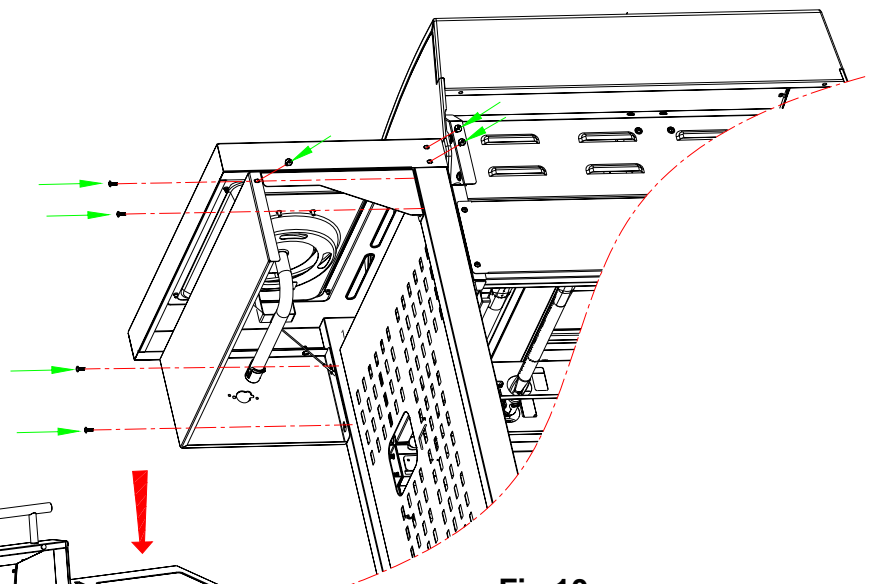

Fig.10c
- Attach right shelf to the right side panel from outside to inside of firebox with four (4) M5 x 10 screws as shown in Fig.10c.
- Attach shelf from back to right side panel with two (2) M5 x 10 screws and connect right-side shelf support and right-side shelf wall with one (1) M5 x 10 screw as shown in Fig.10c.